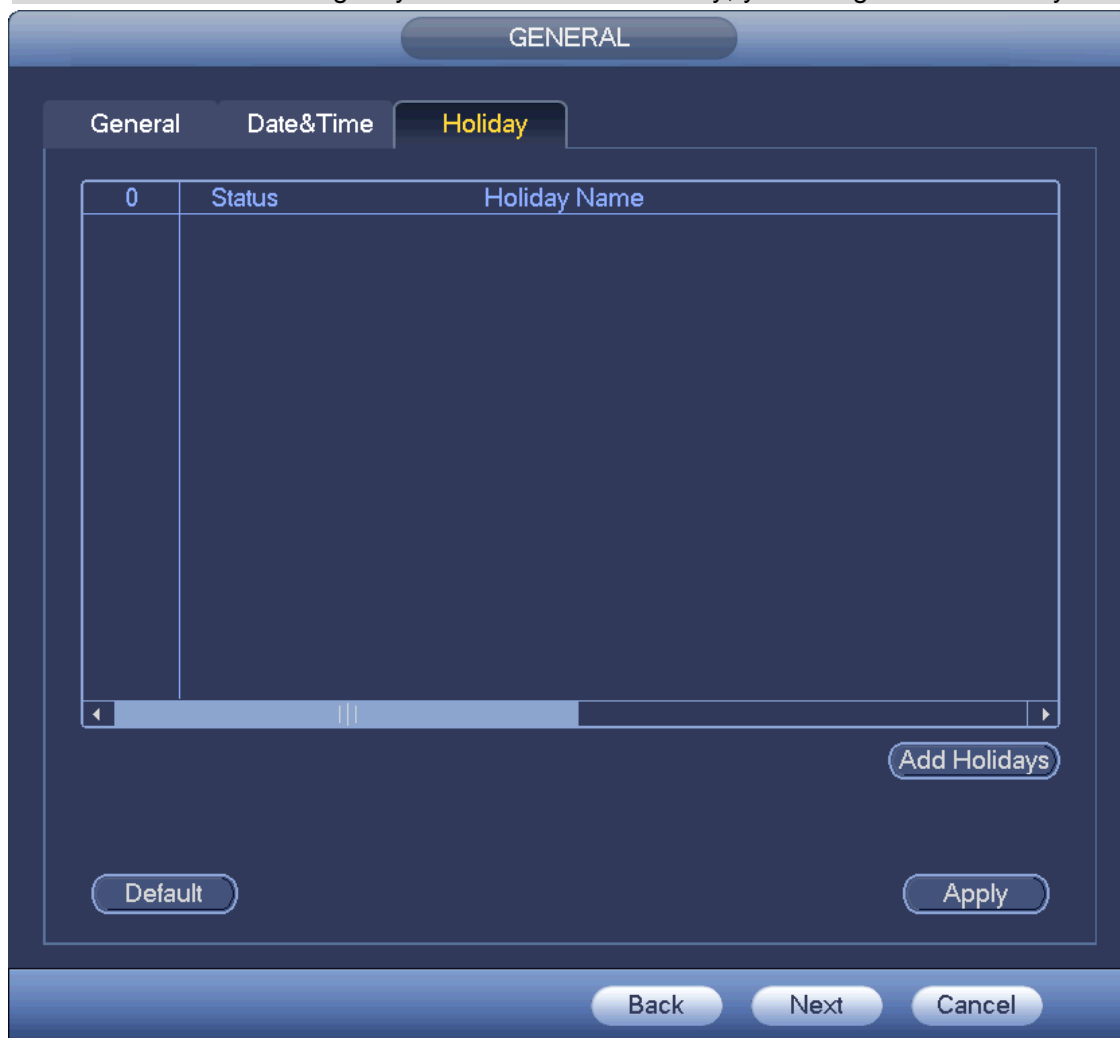

Figure 4-22
Step 1 Click Holiday button. See Figure 4-22.